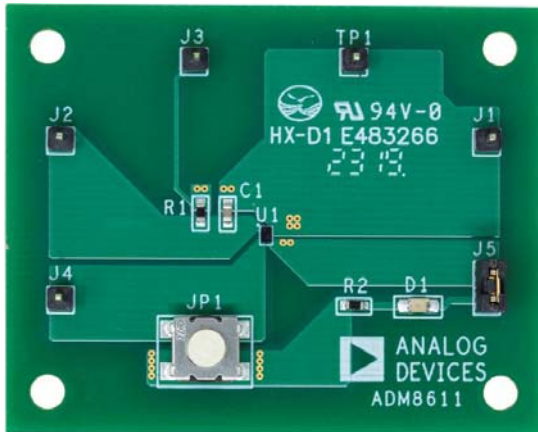
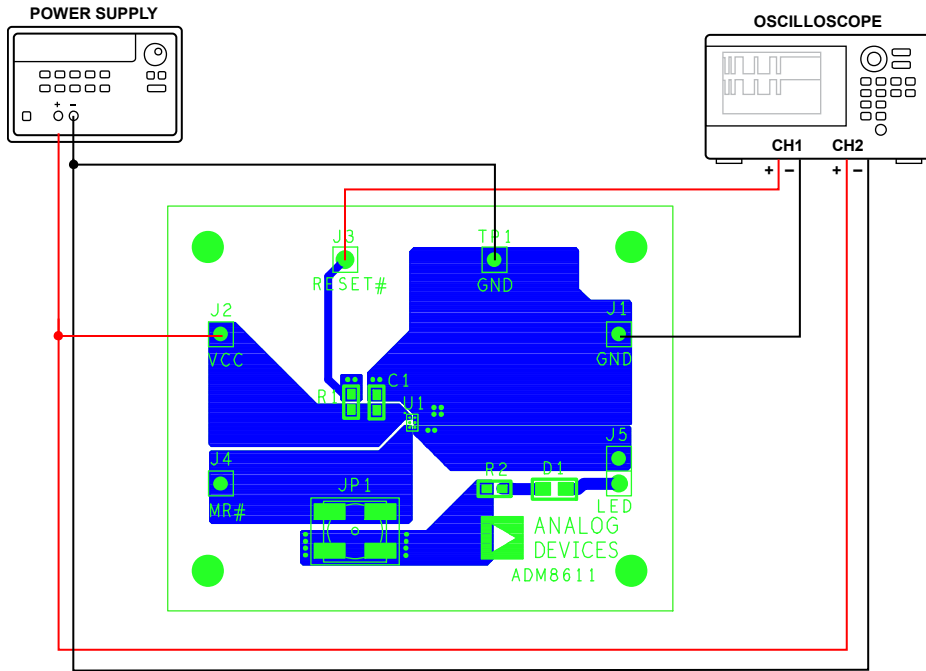
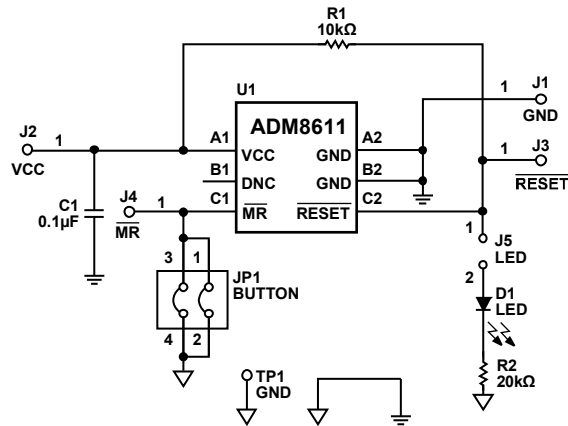

Figure 1. ADM8611-EVALZ
Figure 6. ADM8611-EVALZ Connection Diagram
Figure 11. ADM8611-EVALZ Schematic
This section explains how to evaluate the performance of the ADM8611. Refer to Figure 1, Figure 6, Figure 11, Figure 16, and Figure 19 for proper setup, and use the following procedure:
1. Connect the power supply and the oscilloscope to the ADM8611-EVALZ, as shown in the connection diagram (see Figure 6).